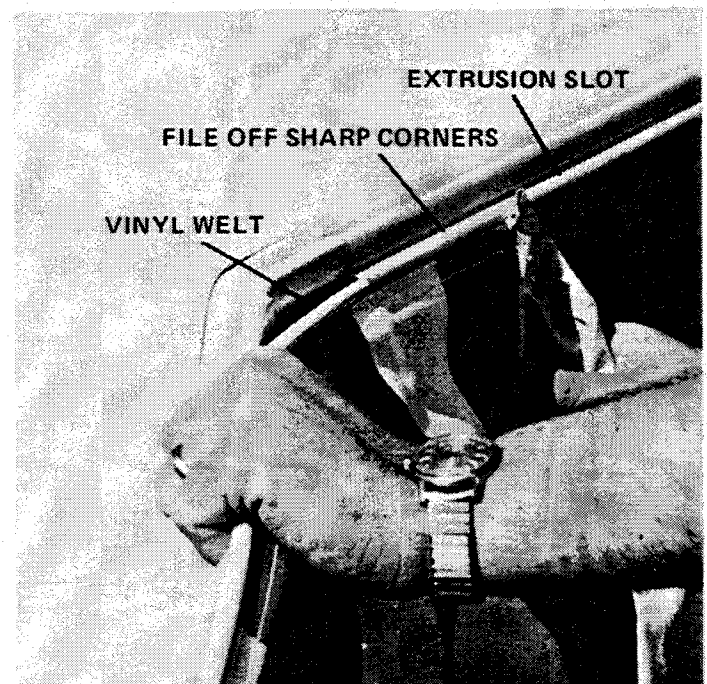

Fig. 29
STEP 1 — Insert awning welt into extrusion slot. Check each end of the roof extrusion slot for sharp corners and rough spots. Remove them with a rat tail file. Insert awning's vinyl welt into the extrusion slot (FIG. 29). Pull the entire welt into the extrusion.